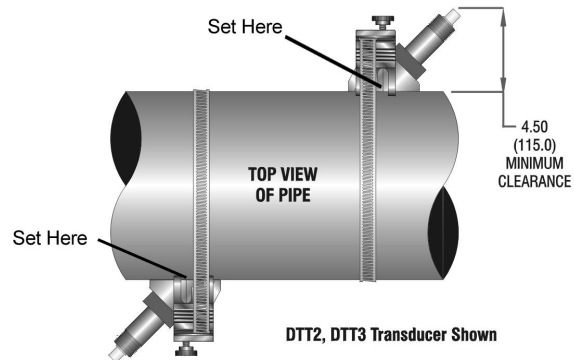

Figure 2.8 Z-Mount Alignment
1. Install the first mounting saddle on the pipe, with the alignment groove placed over one of the marks created in the previous section. The stainless steel clamping band will be located towards the "inside" and the thumbscrew will be mounted towards the outside. See **Figure 2.8**.
3. Place the first transducer in between the saddle and pipe near the zero point on the mounting rail scale. Slide the transducer clamp over the transducer. Adjust the clamp/transducer such that the line on the transducer aligns with the mark on the pipe. See **Figure 2.8**.
5. Mount the second saddle in the same manner as the first, but at the second mark on the pipe. Slide the transducer clamp over the transducer and secure with the thumb screw. Refer to **Figure 2.8** for proper orientation.